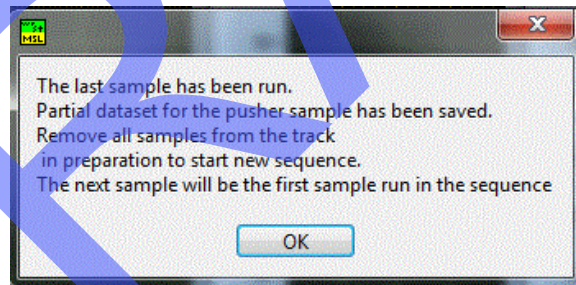

Figure 6. End of sequence message.
- Once the water standard has been run, the end of core notification appears (Fig. 6); click **OK**.